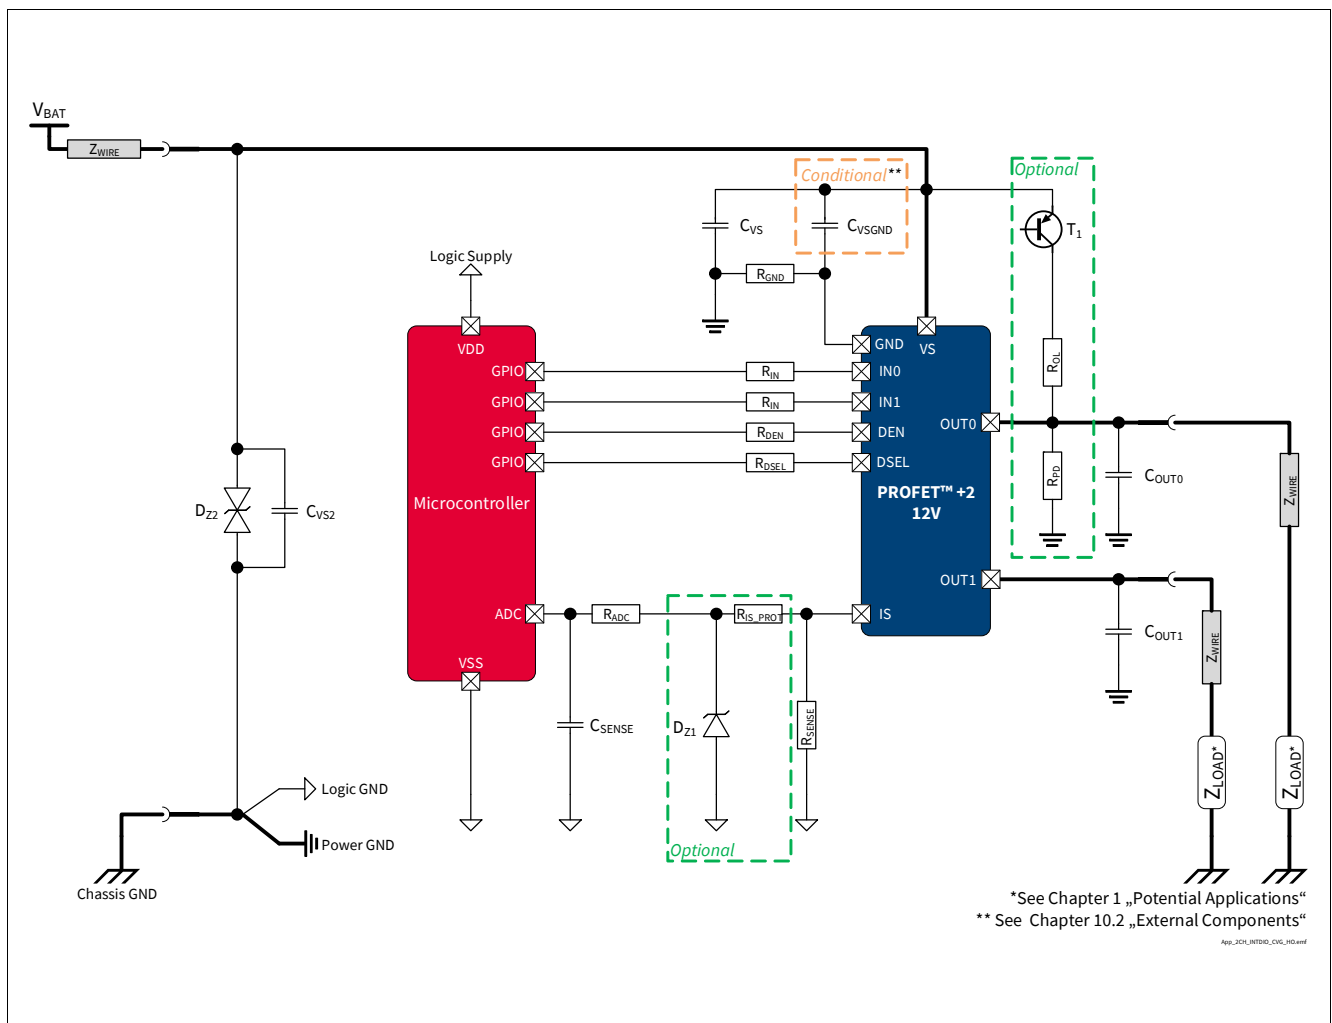

Figure 42 BTS7120-2EPA Application Diagram
1.03, 2019-10-15	<p>P_8.7.8.1, P_8.7.8.7, P_8.7.8.8 updated (added in Note or Test Condition: link to Figure 25)</p> <p>P_7.5.8.4, P_7.5.8.5 updated (added in Note or Test Condition: DEN = “low”; link to Figure 19)</p> <p>P_7.5.8.12 updated (added in Note or Test Condition: See Figure 21; deleted unnecessary space in Symbol: $dV_{OUT} / dt \rightarrow dV_{OUT} / dt$)</p> <p>P_8.7.8.6 updated (added in Note or Test Condition: see Figure 26)</p> <p>P_9.7.8.1 updated (added in Note or Test Condition: see Figure 33)</p> <p>P_9.7.8.5 updated (Min./Max.: -45%/+45% → -27.0%/+27.0%)</p> <p>P_9.7.8.6 updated (Min./Max.: -36%/+36% → -25.5%/+25.5%)</p> <p>P_9.7.8.8 updated (Min./Max.: -30%/+30% → -24.0%/+24.0%)</p> <p>P_9.7.8.12 updated (Min./Max.: -14%/+14% → -12.5%/+12.5%)</p> <p>P_9.7.8.13 updated (Min./Max.: -11%/+11% → -8.8%/+8.8%)</p> <p>P_9.7.8.15 updated (Min./Max.: -6%/+6% → -6.0%/+6.0%)</p> <p>P_9.7.8.17 updated (Min./Max.: -5%/+5% → -5.0%/+5.0%)</p> <p>P_7.5.8.11 updated (added in Note or Test Condition: See Figure 19)</p> <p>Figure 1, Figure 42 updated</p> <p>Chapter 1 updated (or LED equivalent → or equivalent electronic loads (e.g. LED modules))</p> <p>P_4.3.0.7 added</p> <p>Table 24 updated</p> <p>Chapter 5.1 updated (added: see Chapter 10 for the complete application setup overview)</p>